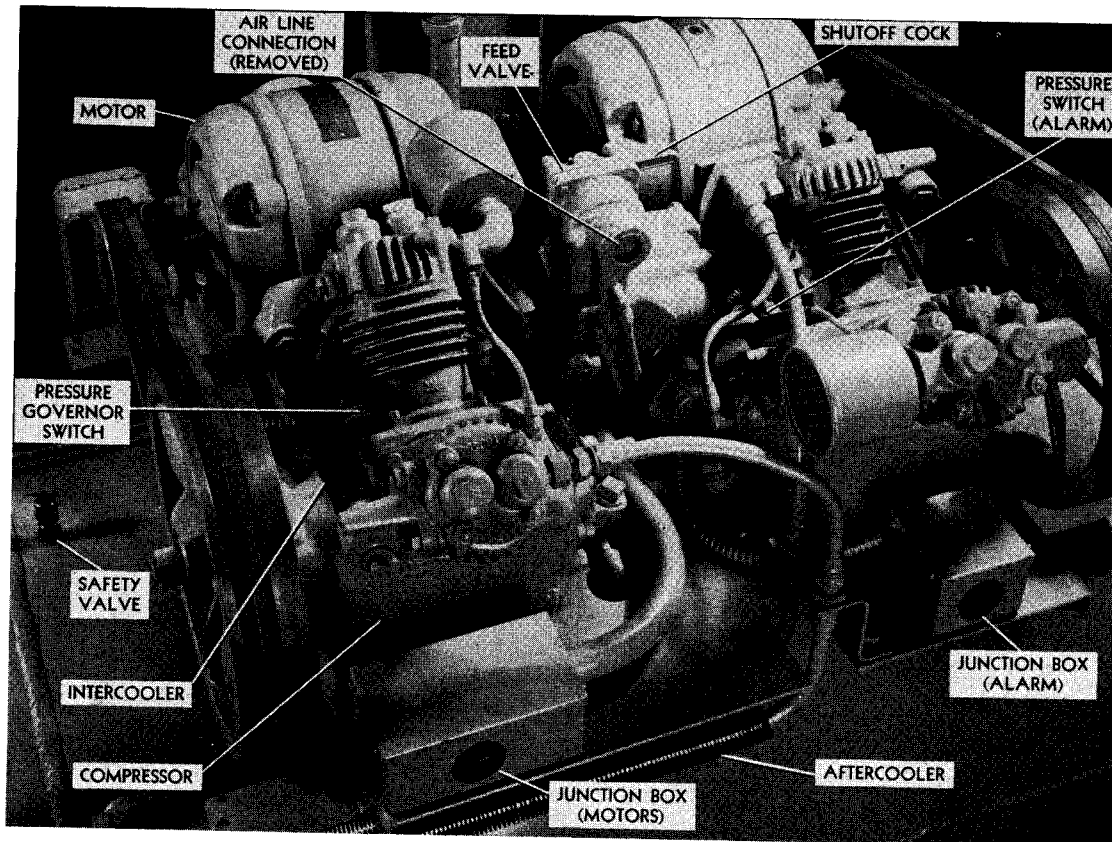

FIG. 5—TWIN AIR COMPRESSORS FOR SUPPLY UNIT
- Fig. 5. Twin Air Compressors for Supply Unit.
The twin compressor unit (Fig. 5) is supplied with two Type 1AYC compressors,  $3\frac{1}{2}$  and  $1\frac{7}{8} \times 2$ , which at 525 rpm will deliver approximately 4.4 cfm of free air each. With both compressors running, the unit can be charged to full working pressure in 68 minutes, one compressor requiring double that time or 136 minutes. Supply units of other storage volumes and compressors with other delivery ratings may be supplied for installations where the standard units do not meet all requirements.